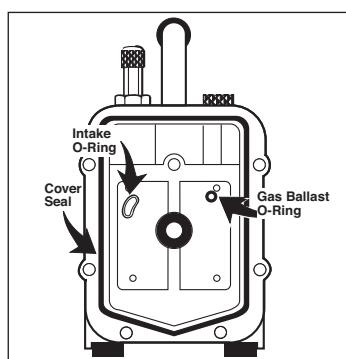

Figure 29
Step 4: Insert intake and gas ballast o-rings in trap (**Figure 29**). Gasket replaced after cartridge is installed.